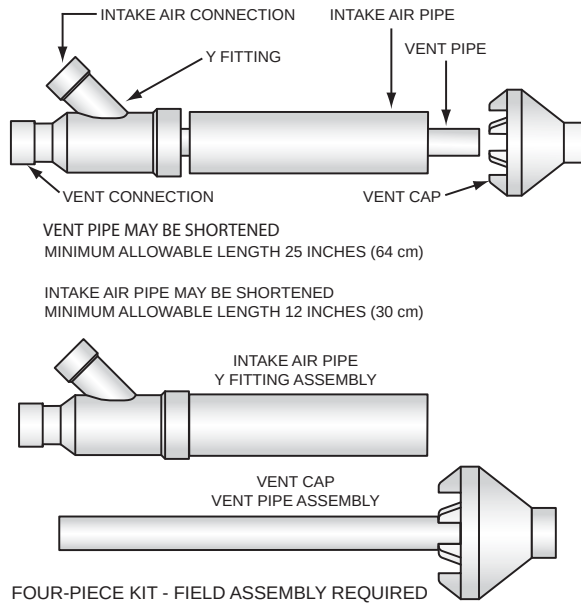
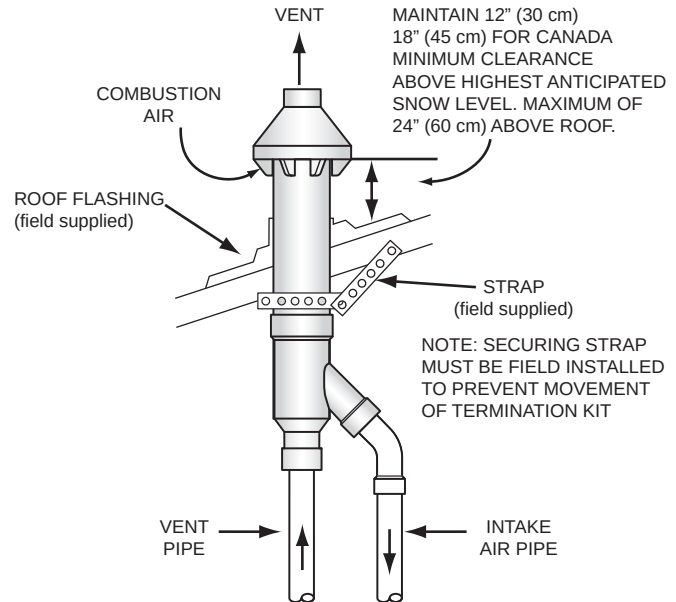
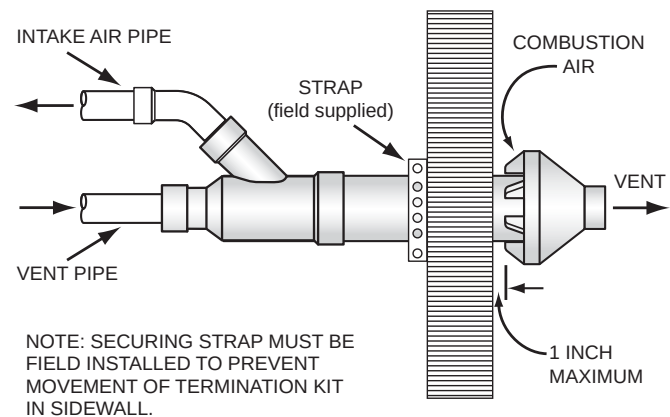

Figure 28. Concentric Termination Kit
Figure 29. Concentric Termination - Vertical Installation
Figure 30. Concentric Termination - Side-Wall Installation
3. When installing a concentric termination vertically through the roof; ensure that all exterior vertical clearance requirements for the concentric termination, shown in *Figure 29* (page 30) are being maintained. These clearances and those cited by local and national codes must be maintained.
- See *Figure 28* (page 30) for the minimum lengths allowed for the concentric termination.
Assemble and install the concentric termination. Refer to **Figure 28**, **Figure 29** and **Figure 30** for these instructions: